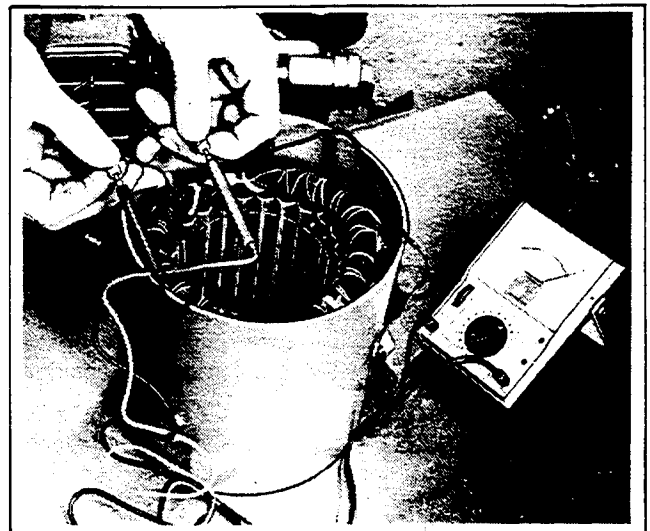
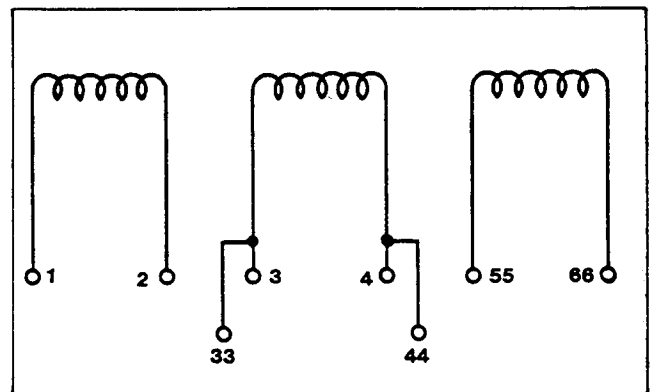

Figure 4-7. Checking Stator Continuity
Figure 4-8. Generator Stator Leads
1. To check stator continuity, set ohmmeter on R x 1 scale (Figure 4-7). Contact red and black meter leads; adjust meter to zero ohms. Check stator continuity, contacting meter leads to stator leads (Figure 4-8). Leads 1, 2, 3, and 4 are the generator output leads. Leads 33, 44, 55, and 66 are voltage regulator supply and sensing leads.